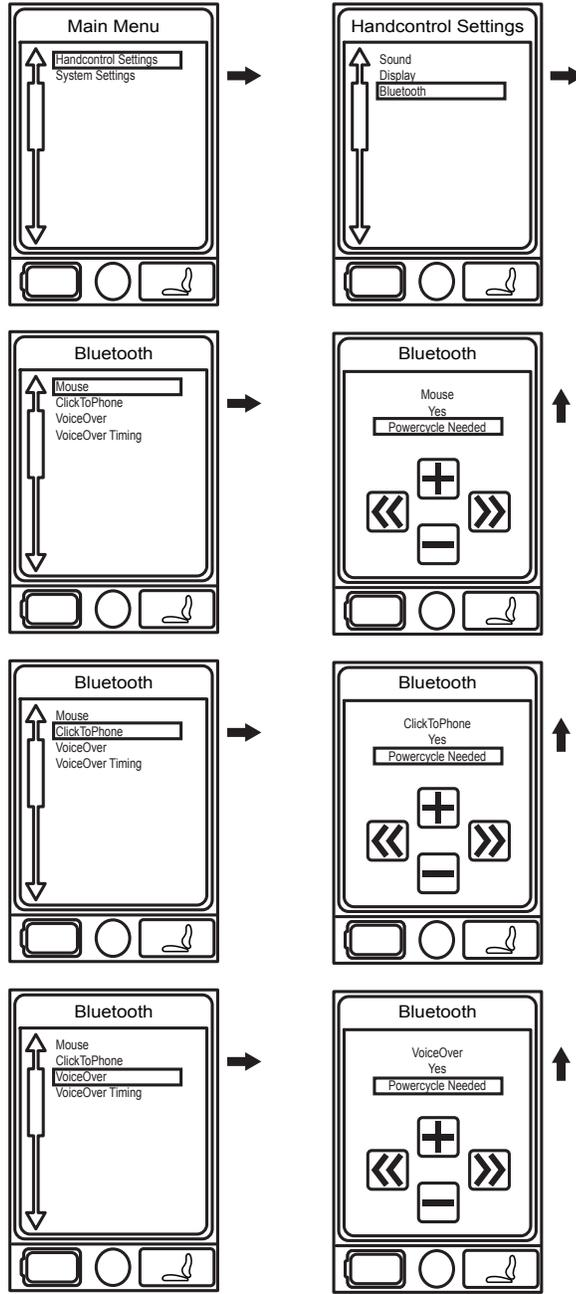

Figure 6A. Bluetooth Menu
2. Push the Menu button to access the Main Menu screen. **See figure 6A.**
6. Push the joystick forward to enable the Bluetooth screen. **See figure 6A.**